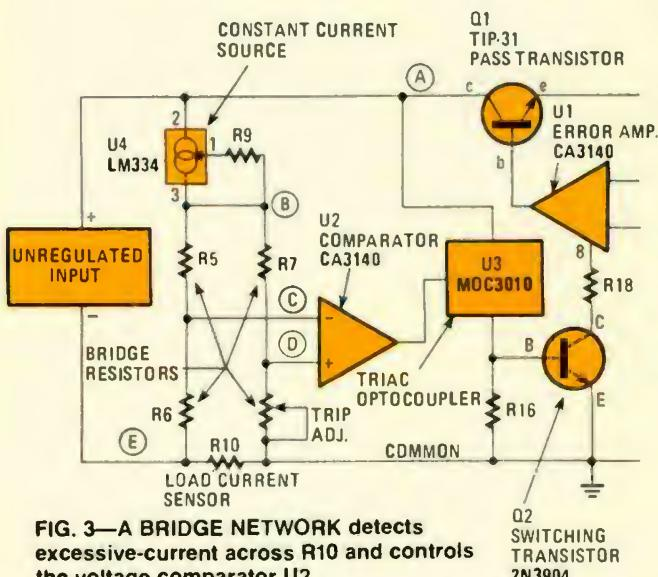

FIG. 3—A BRIDGE NETWORK detects excessive-current across R10 and controls the voltage comparator U2.
| Volts DC to Common from: | Fig. 3 | |
By using a comparator driving a Triac optocoupler, my shutdown objectives are easily achieved. Figure 3 shows the basic shutdown circuit.
Table 1 shows the voltages measured in the snap-action over-current circuitry of Fig. 3 under three conditions: (1) No load, (2) full load just before tripping, and (3) after tripping. Just before tripping, the bridge arm voltage to the comparator's inverting input (C in Fig. 3) is slightly larger than voltage D applied to the comparator's non-inverting input. When the trip-value current of 400 mA is exceeded, the comparator output goes high to about 25 volts. That voltage, via R15 (refer to Figs. 3 and 4), causes the internal LED of U3 to illuminate the Triac in U3, which then turns on, permitting about 32 mA to flow from the unregulated input point through the shunted trip indicators, D13, R14, the saturated Triac, and R16. The drop across R16 turns Q2 on via R17, thus grounding R18. Hence, pin 8 of U1 is taken low via R18 and base drive to Q1 is removed. That action reduces the output voltage and current to zero. Of course, with the load current reduced to zero the voltage drop across R10 drops to a low value, and the comparator inputs return to their normal values. The current through the Triac, however, remains latched on until the fault is corrected and RST (reset) switch S2 is depressed. Listed at the bottom of Table 1 are the currents flowing through R10 as calculated from the drops measured across it.
With no external load, the current through R10 (Figs. 3 and 4) is about 14.3 mA. That current represents the currents drawn by U1, U2, and the circuit's resistive dividers. With a 400-mA external load, the current through R10 increases to 414-mA. Under trip conditions, the no-load internal current is increased by the Triac (U3) latched current to a total of 46.5 mA. The measured resistance of my R10 was 1.1 ohms.